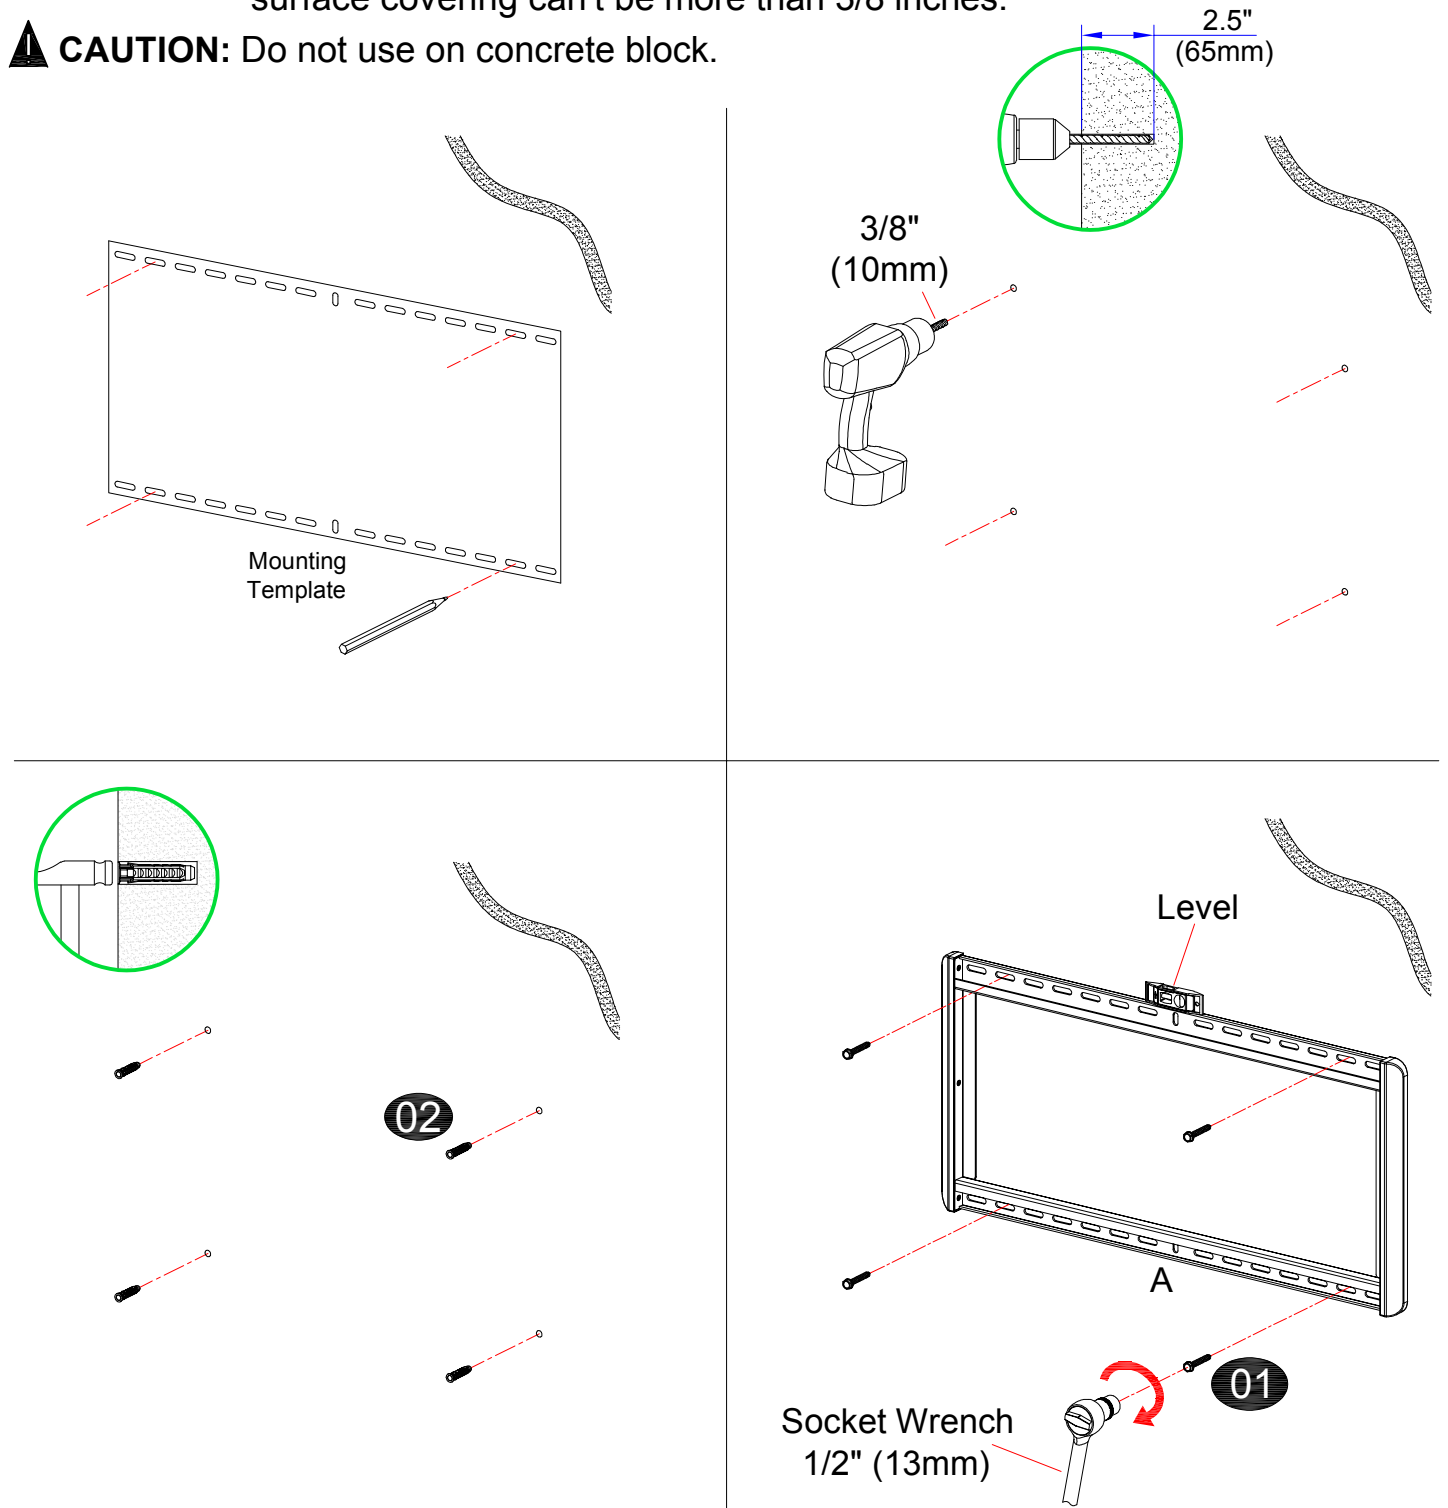

Figure 2 (keep the wall plate level)
Step 2: Install wall plate (A) on the wall.
For concrete wall: Remove the plaster board on the surface of the concrete wall. Hold the wall plate (A) against the concrete wall at the desired position. Next, using a pencil, mark 4 hole locations. Drill holes according to pencil marks using a 3/8" size drill bit to a depth of 2.5". Insert concrete anchors **02** into holes. You may need to use a hammer to lightly tap the concrete anchors into the wall. Then attach the wall plate (A) to the wall with lag bolts **01**. (Figure 2)